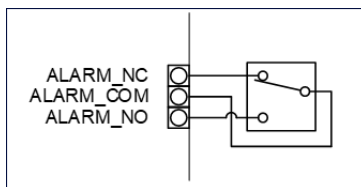

Figure 3-2: Alarm Relay Output Detail
- Alarm Relay Outputs — Table 3-1, "Alarm Relay Outputs \(J1\)," on page 64 and Figure 3-2: Alarm Relay Output Detail on page 65.
Refer to the following pin-out information (Table 3-1) and relay output details (Figure 3-2) when installing alarm output wiring.